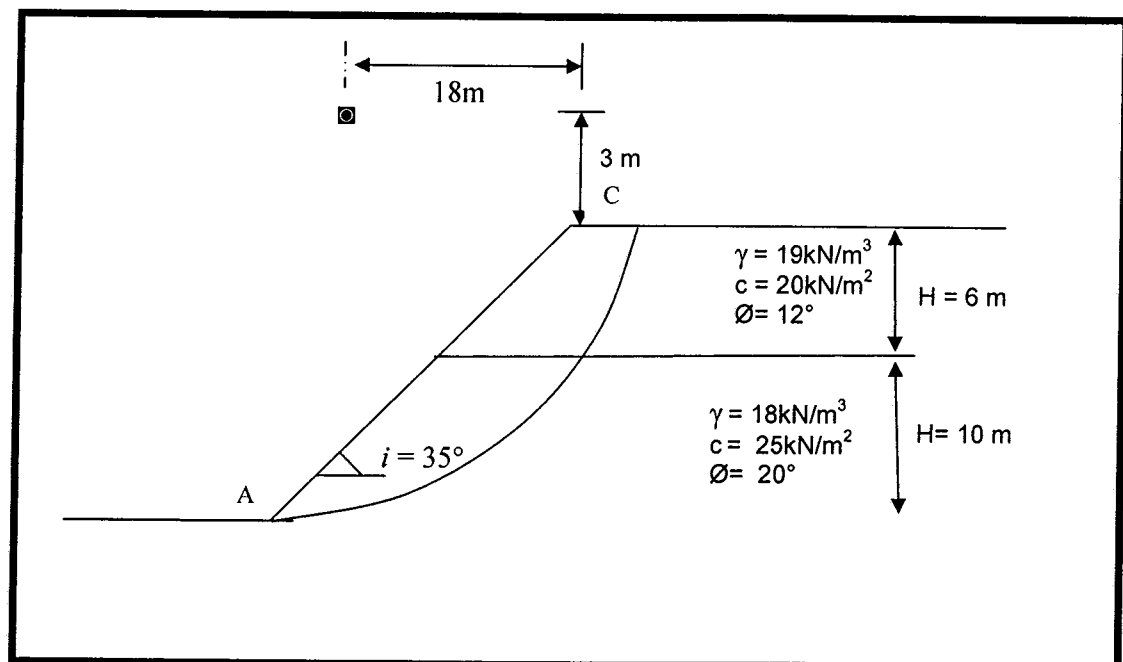

Figure 1
- (b) As for the slope shown in Figure 1, find the factor of safety against sliding for the trial slip surface AC. Use the ordinary methods of slices.
5. A footing is planned to support an ultimate load of 30MN (Allowable load is 10MN and Factor of Safety is 3.0). The footing will be embedded 2.0m below ground surface. The bulk density of earth material is 1600kg/m^3 and the water table is very deep. Terzaghi's equation for ultimate bearing capacity, q_{ult} , for circular foundation is given by: $q_{ult} = 1.3cN_c + 0.3B\gamma N_\gamma + qN_q$ while Terzaghi's equation for ultimate bearing capacity, q_{ult} , for square foundation is given by: $q_{ult} = 1.3cN_c + 0.4B\gamma N_\gamma + qN_q$. (Refer Figure 1 and 2).